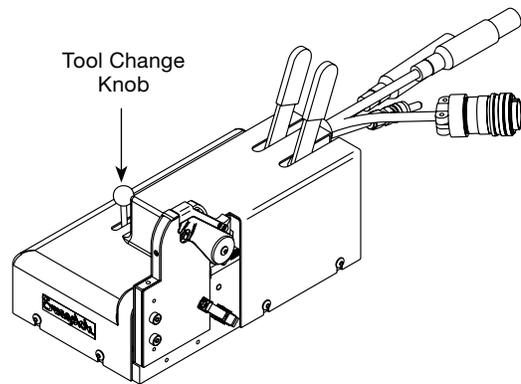

Figure 59 Reinstalling the Tool Change Knob
22. Reinstall the tool change knob. See Figure 59.